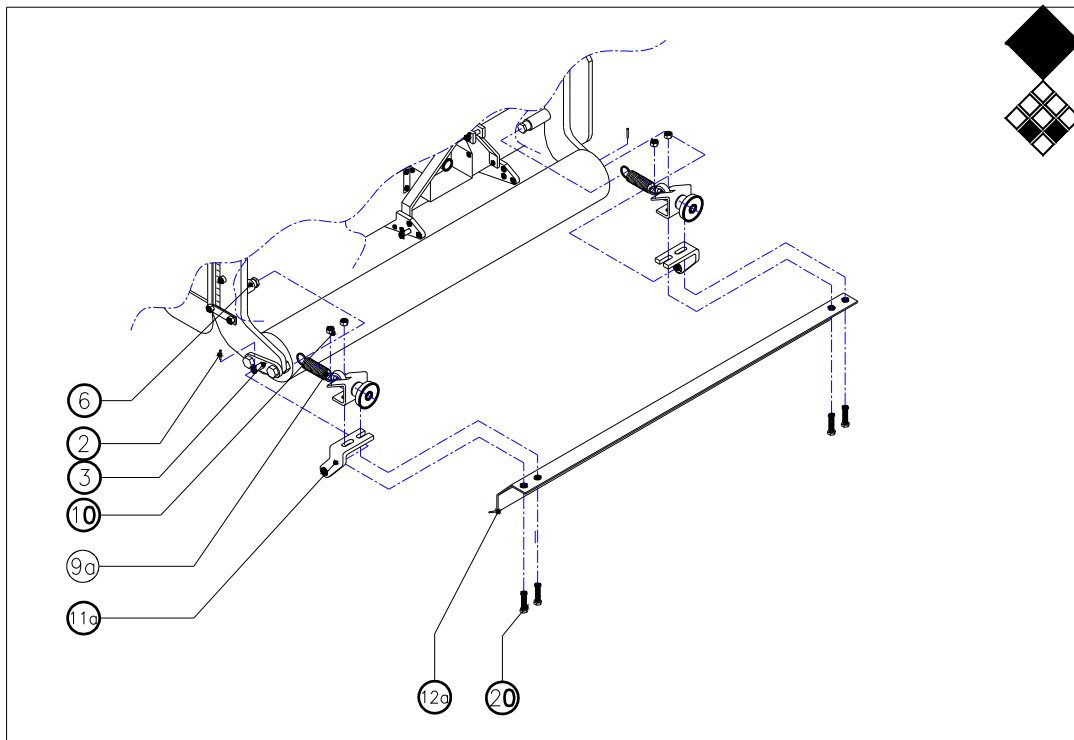

fig.6
1.4 Assembly of the system on the Verti-Core® (see fig. 6)